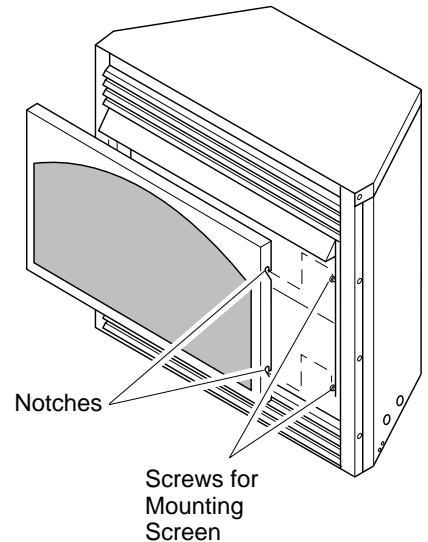

Figure 26 - Installing Fireplace Screen
5. Install fireplace screen by slipping notches of fireplace screen over screws on front of fireplace (see Figure 26).